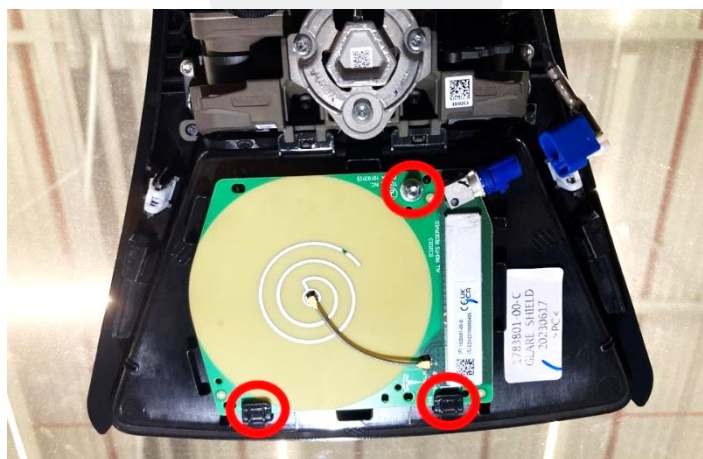

Figure 4
3. Remove the bolt (T10) that attaches the GNSS antenna to the camera hood, and then remove the GNSS antenna by pulling it backward from the tabs (x2) on the camera hood (Figure 4).
6. Attach the GNSS antenna to the tabs (x2) of the camera hood, and then fasten the bolt (T10, torque 0.8 Nm) that attaches the GNSS antenna to the camera hood (Figure 4).